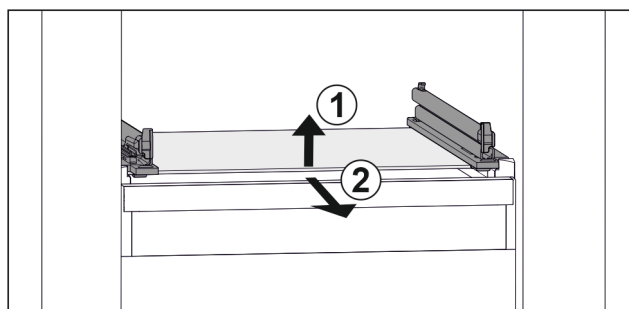

Fig. 34 Example illustration of glass shelf
- Lift glass shelf at the front. Fig. 34 (1)
- Take out glass shelf to the front. Fig. 34 (2)